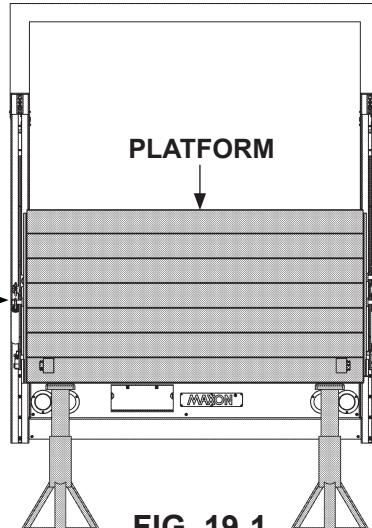

FIG. 19-1
1. Stow platform (FIG. 19-1). Ensure platform is latched securely. Refer to **Operation Manual** for detailed operating instructions.
2. Support bottom of platform and flipover evenly on RH and LH sides (FIG. 19-1).